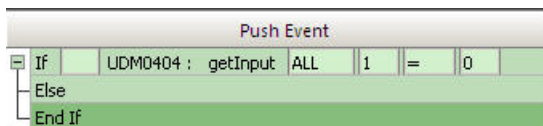

FIG. 232 Editing the Status Macro Block
4. Double-click on one of the Status macros to add the representative macro block to the *Event Window* (FIG. 232):